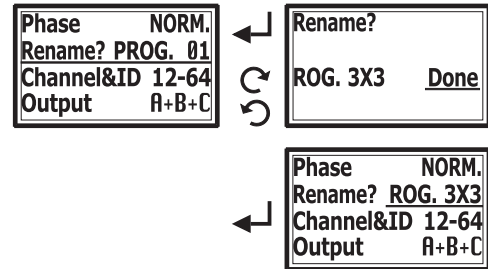

Fig. 17
(I) Rename ? function, Fig. 17: